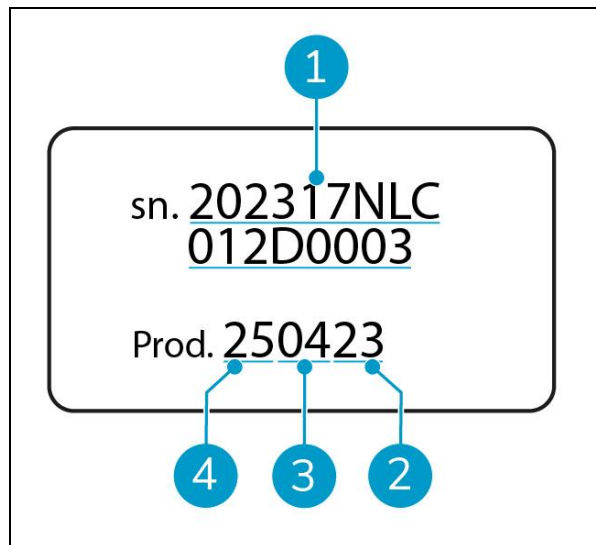

Figure 3
- Serial number (Figure 3, pos. 1).
- Production year (Figure 3, pos. 2).
- Production month (Figure 3, pos. 3).
- Production day (Figure 3, pos. 4).